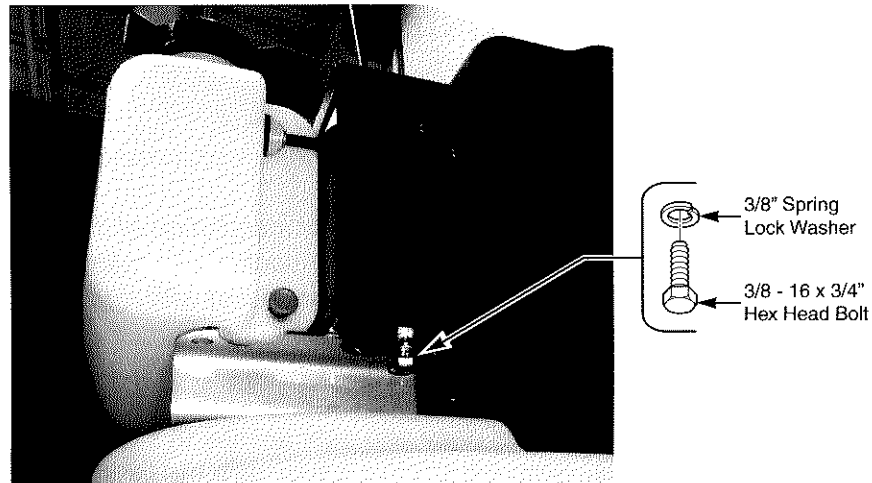

Figure 2. Secure Foamer Unit & Tank to Mounting Bracket
3. Assemble the foamer unit with tank assembly onto the mounting bracket installed in the previous step and secure to the left-hand & right-hand rear corners of the bracket with two (2) 3/8-16 x 3/4" hex head bolts and two (2) 3/8" spring lock washers supplied with this kit. See Figure 2, Page 2.